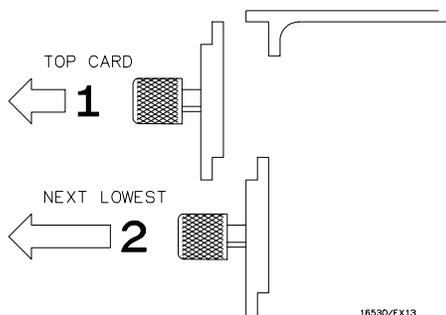

Figure 6-51. Endplate Overlap
3. Starting **from the top**, loosen the thumb screws on filler panels and cards in the HP 16500A mainframe that are located above the mainframe interface card. Starting **from the top**, pull the cards and filler panels **halfway** out. See figure 6-51.